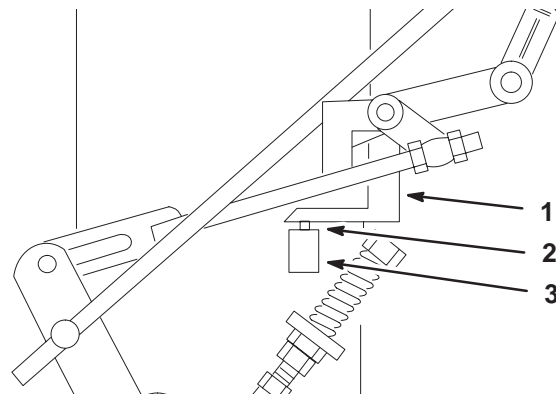

Figure 48
4. Check the orientation of the tabs on the ends of the speed control crank. These tabs should be pointing straight down at the 6 o'clock position approximately (Fig. 48).
5. Adjust the threaded yoke at the bottom of the speed control linkage until the tabs are at the 6 o'clock position (Fig. 48).
7. Check to make sure the safety switch is depressed and there is a 5/16 in. (8 mm) space between the actuating tab and the switch. (Fig. 48).
8. If needed, adjust switch location to create the 5/16 in. (8 mm) space (Fig. 48).